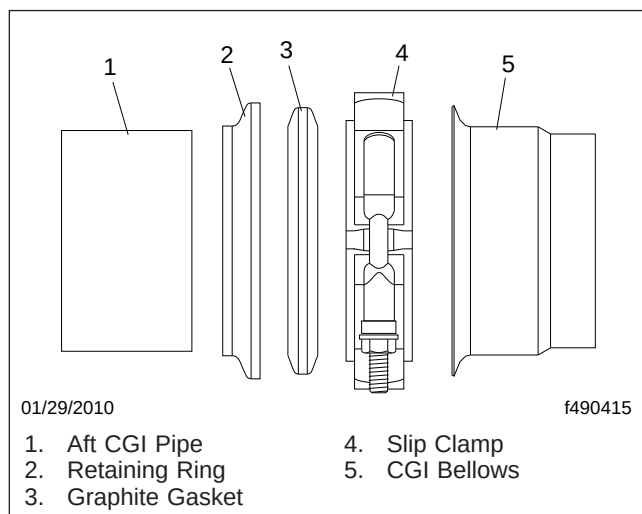

Fig. 11, Aft Facing Slip Clamp Installation
11. Slide the slip clamp, with the retaining ring and graphite gasket ring, on the aft CGI pipe. See **Fig. 11** for proper installation.